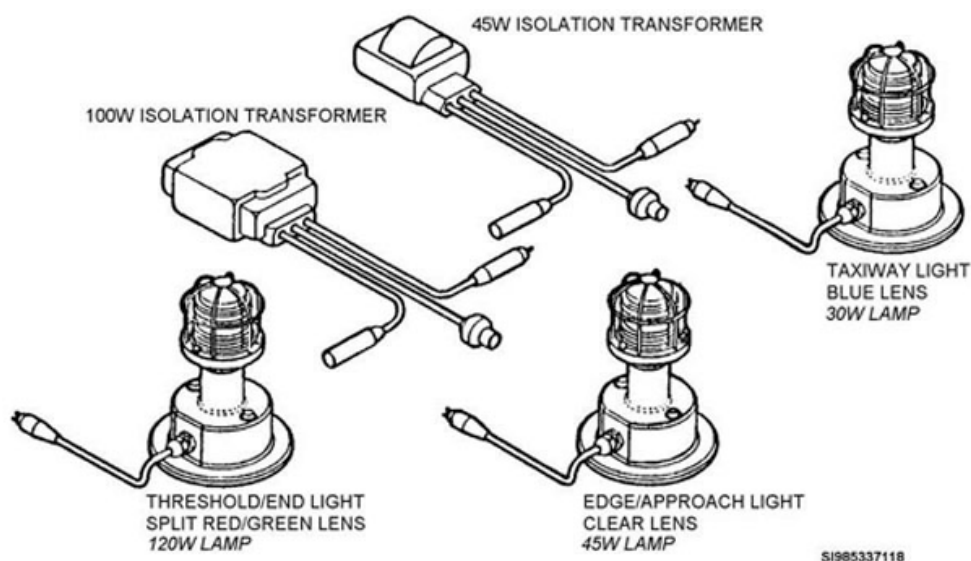

Figure 1-3. EALS light fixtures and isolation transformers.
The runway edge and approach lights are omni-directional fixtures with a clear glass lens and a 45-watt quartz-halogen lamp. A 45-watt isolation transformer (IL) is used with each fixture (fig. 1-3).
The threshold lights are bidirectional fixtures and have a split red and green lens over a 120-watt quartz-halogen lamp. A 100-watt IL isolates each lamp from the circuit (fig. 1-3).
The taxiway lights are omni-directional fixtures with a blue lens and a 30-watt lamp. The taxiway lights use a 45-watt IL for series circuit isolation. Also, taxiway reflectors are provided for use on the taxiway sections that cannot be illuminated by taxiway lights (fig. 1-3).